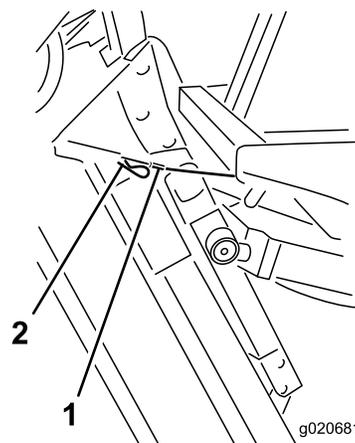

Figure 107
6. Hold the mower deck upright, fit the cable end over the pin on the mower deck lift arm, and secure it with the hairpin cotter (Figure 107).